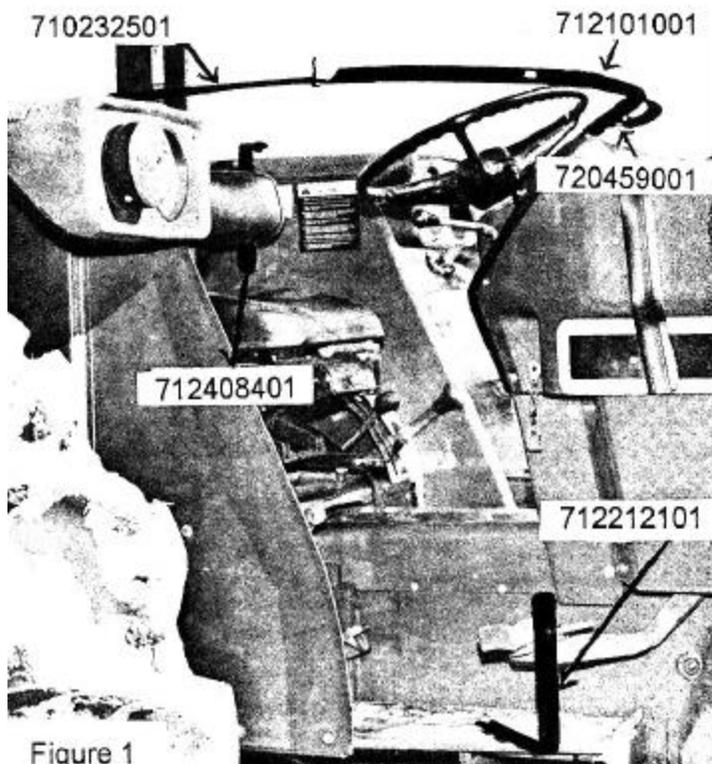

Figure 1
1. Attach # 712212101 Pedal Guard to RH step using 3/8x1 1/2 hex bolt and nut. See Figure 1. Attach # 720459001 Mounting Bracket to steering column using U-Bolt.